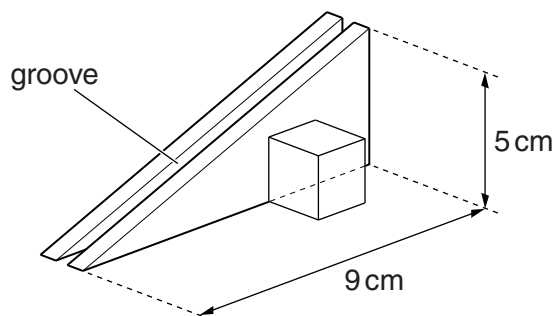

Fig. 2.1
- 1 Make the ramp from a triangle cut from grooved board (e.g. tongue and groove board). Glue a wooden block to the side so that the ramp stands vertically, as shown in Fig. 2.1.